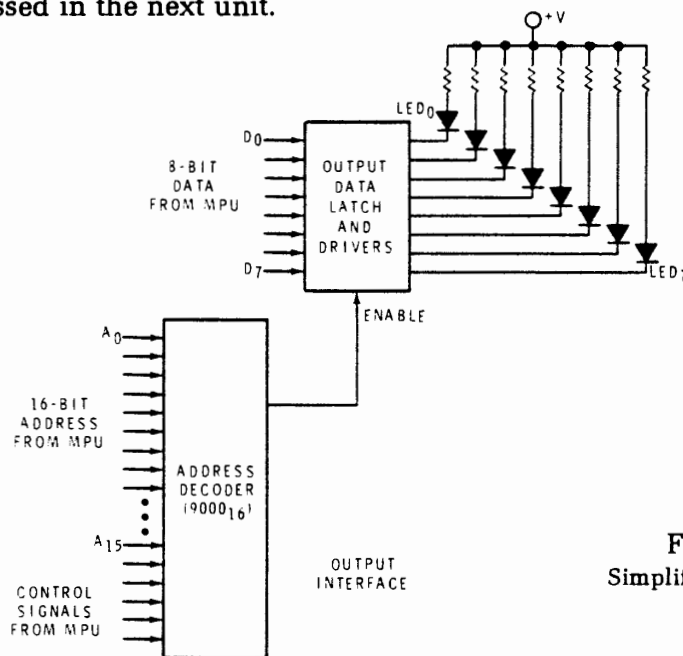
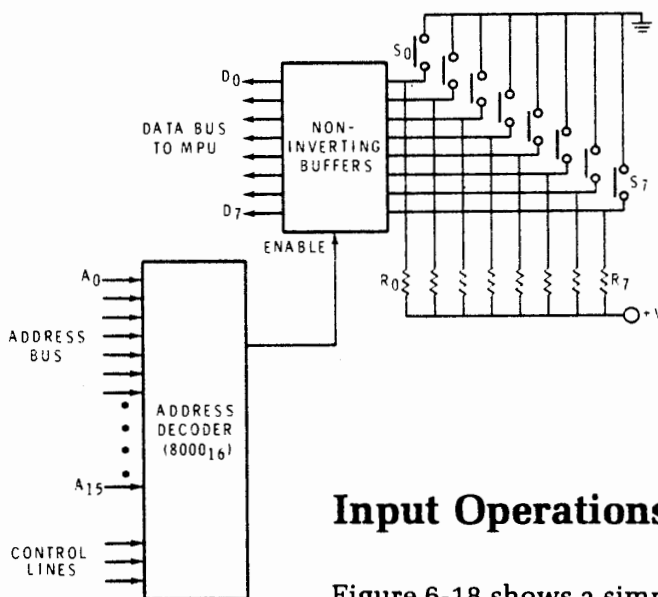

Figure 6-17.
Figure 6-18.
Figure 6-17 shows a simplified output circuit. Here, the output device is a bank of eight light emitting diodes (LEDs). Enough detail is shown to illustrate how an output operation can be performed. The address decoder monitors the address bus, looking for the address  $9000_{16}$ . It also monitors some of the control lines that connect to the MPU. One of those lines is called a read-write line. It goes to its low state when a write (output) operation is initiated by the MPU. The other control lines will be discussed in the next unit.
Figure 6-18 shows a simplified input circuit. Here, the input device is a bank of eight switches. When a switch is open, its respective input line to the buffer is held high by the pull-up resistors. However, when a switch is closed, its respective input line is pulled low because the switch connects it to ground.
You now know enough about simple input/output circuits to perform some I/O operations. Refer to Figures 6-17 and 6-18. For the first example, assume that you would like one of the LEDs to light when the corresponding switch is pushed. That is,  $LED_0$  should light when  $S_0$  is pushed;  $LED_1$  should light when  $S_1$  is pushed, etc.
If you refer to Figure 6-17, you will see that an LED is caused to light by placing a 0 in the proper bit in the latch. For example, a 0 in bit 0 will cause  $LED_0$  to be forward biased. Thus, the diode will conduct and emit light. Notice that a 1 at bit 0 will not allow the diode to conduct and emit light. Consequently, a 0 turns the LED on and a 1 turns it off.
Refer to Figure 6-18, and you will find that, when one of the switches is closed, its corresponding line goes to 0. If the switch is not closed, its corresponding line is at 1.
25. Write a program segment that will: read in data from the switch bank shown in Figure 6-18; double the number; and display the result on the LED bank shown in Figure 6-17.